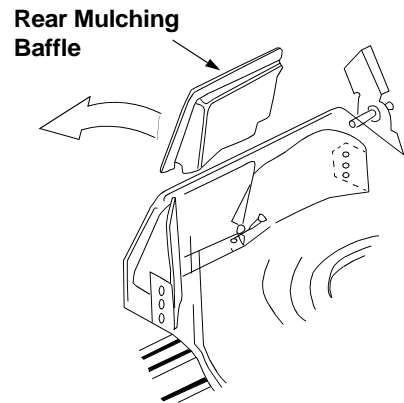

Figure 8
- Remove the mulching baffle in order to install and use the grass catcher. Lift the rear discharge door and remove the rear mulching baffle from the mower. See Figure 8.